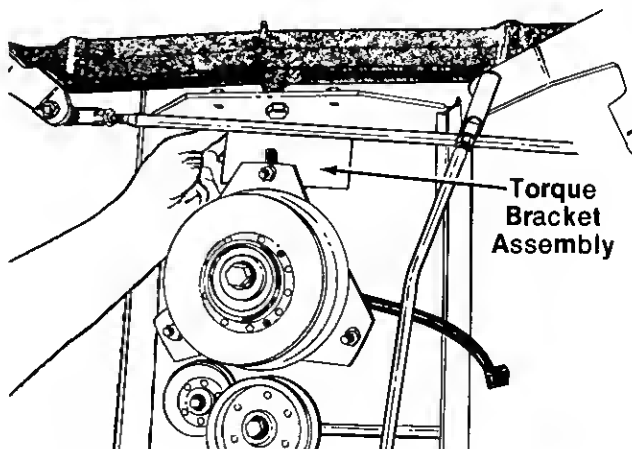

FIGURE 25.
2. Remove the torque bracket assembly by removing two hex bolts and lock washers on the front of frame under the engine. See figure 25.